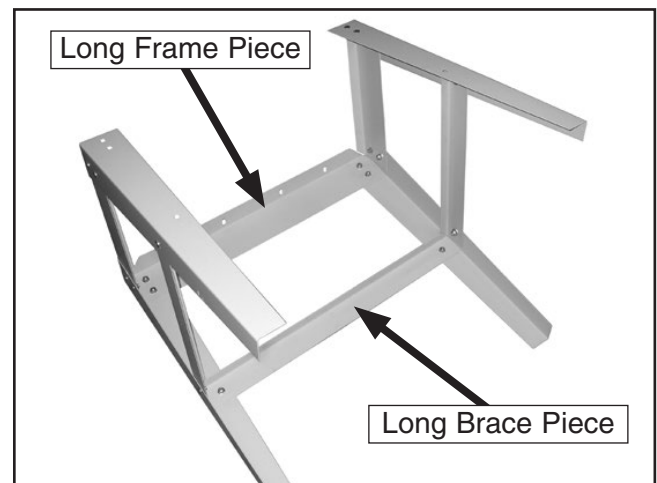

Figure 7. Joining stand halves.
5. Fasten the stand halves together using a long frame piece, a long brace piece, carriage bolts and flange nuts as shown in **Figure 7**.